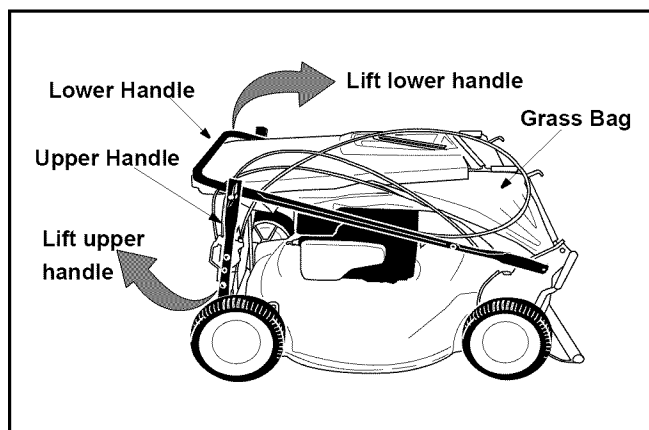

Figure 2
For shipping purposes, the grass bag was placed on top of the unit. Remove it from the unit and set it out of the way. See Figure 2.
- Raise the lower handle, as shown in Figure 2, until it snaps into place.
- Raise the upper handle as shown in Figure 2.